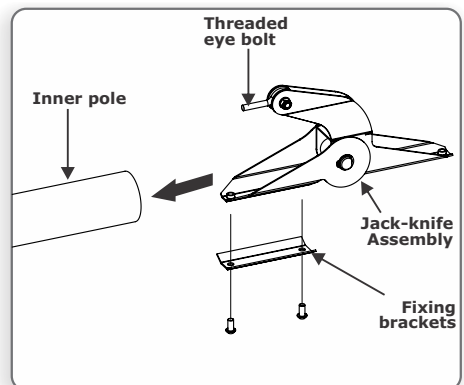

FIGURE 10
1. With the threaded eye bolt facing the barrier as shown in Figure 10, slide and align the **Jack-knife Assembly** onto the inner pole.